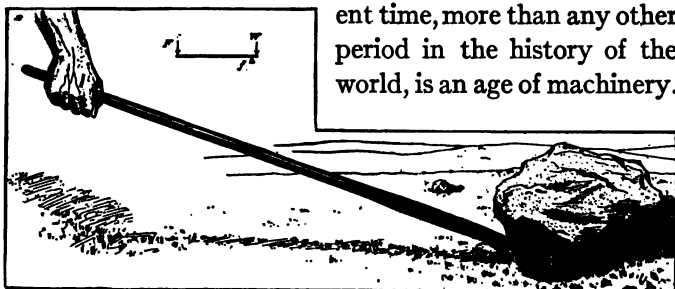

FIG. 209. A simple machine which increases the lifting power of man.
means of them we can make forces act through longer distances than the objects are moved, and thus magnify the power of the forces to do heavy work. When a man pries a stone out of the ground with a crowbar (Fig. 209), he greatly increases his lifting power by moving the end of the crowbar in his hands through a comparatively long distance while the stone is raised a much shorter distance. When we raise a bucket of water with a windlass (Fig. 210), we gain in lifting power by making the hand move through a wide circle while the rope is wound up and the bucket raised only a short distance. The lower pair of scissors shown in Figure 216 is used for cutting tin and iron. Do you see how the force acts through a greater distance than the blades move and that there is a gain in power when scissors of this kind are used? A "mechanical advantage" is secured by using machines of this kind.
**The lever.** The crowbar is a good example of a lever, the most commonly used of all machines. Notice that in Figure 209 one end of the crowbar is pushed well under the stone, that a smaller stone has been crowded under the bar quite near the stone to be lifted, and that the man's hand is at the other end of the crowbar.